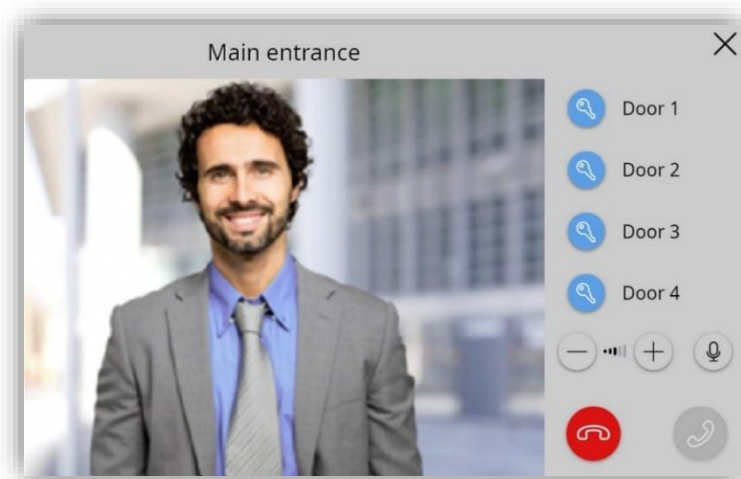

Figure 143. Ongoing call
- **Accept Call:** opens the ongoing call dialog (Figure 143) and notifies others synchronized screens in the same network that the call has been accepted:
When accepting the incoming call, the interface in Figure 143 is shown and starts the voice communication with the video intercom.